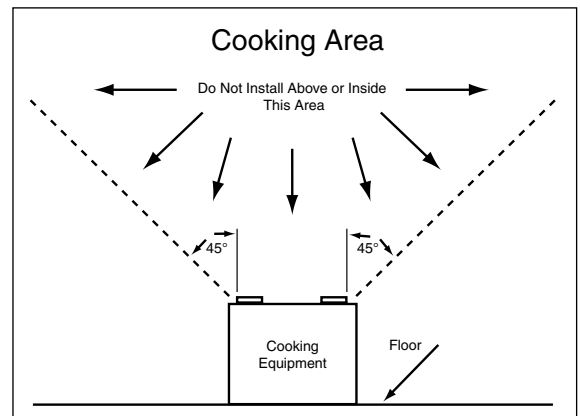

Figure 5
**DO NOT** locate the register head connecting the kitchen duct to the Quiet-Vent in the area designated in Fig. 5.